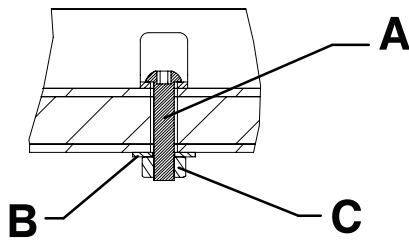
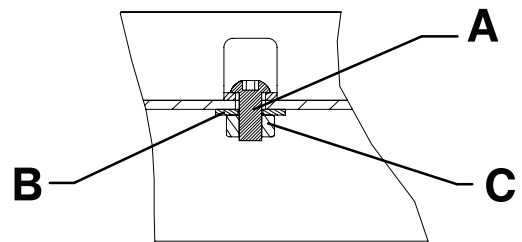

Figure 12 – Floor mount guide rails - View 5A
Figure 13 – Tray mount guide rails - View 5B
5. Anchor the guide rails to the floor or tray using two M8 button head cap screws (A), two M8 flat washers (B), and two M8 nuts (C) (not provided) (Figure 12 or Figure 13).